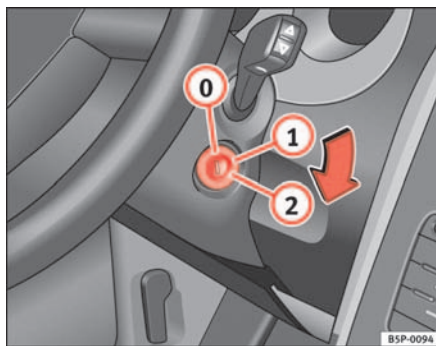

Fig. 94 Ignition key positions
In the position ⇒ fig. 94 the ignition and the engine are OFF and the steering may be locked.
- Turn the ignition key to position ⇒ page 125, fig. 94 ①. The indication lamp  will light for engine pre-heating.
- When the warning lamp goes out, turn the key to position ② to start the engine. Do not press the accelerator.
- Turn the ignition key to position ⇒ page 125, fig. 94 .